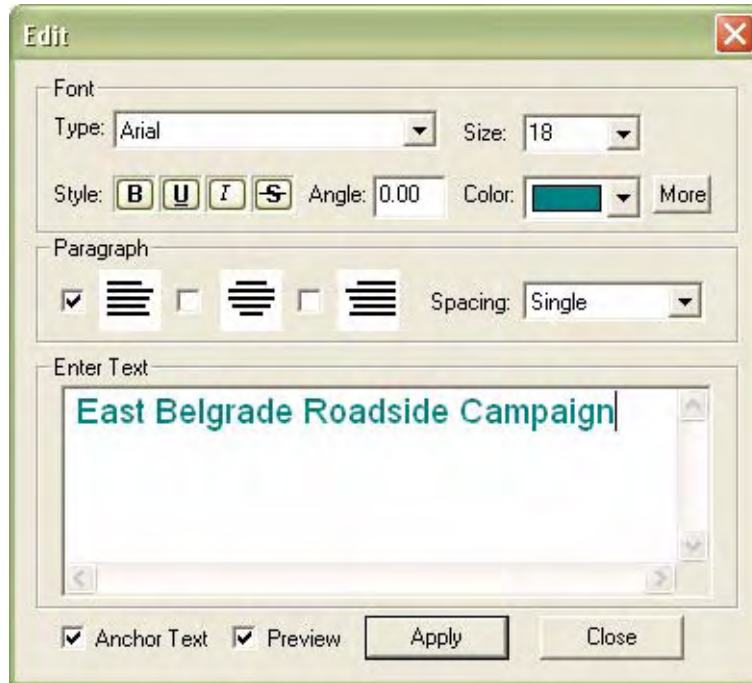

Figure 4-7: The Text Tool Dialog
**T** The Text Tool allows you to add text to any RMS (.GMF) generated map. To add text, select the Text Tool from the Tools menu bar. Left click the mouse, at the location in the map, where you want to place the text. The Text Tool dialog appears (Figure 4-7). Type the desired text into the Text Tool dialog window. The Text Tool dialog allows the editing of the text object properties, such as change font, size, and color. When the desired text is entered, press the apply button to view the text in the map view.